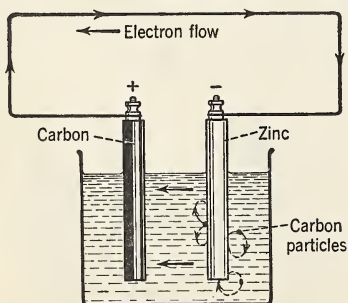

FIG. 600. Local action in a voltaic cell.
1. *Local action.* Carbon or coal is used in extracting zinc from its ores. Hence, commercial zinc usually has some carbon particles distributed through it. As such zinc dissolves in the acid of the cell, small particles of carbon are set free. Some of the carbon particles adhere to the surface of the zinc and some remain suspended in the acid solution. Since they are not attacked by the acid, they become positively charged in just the same manner as does the positive plate. Then they set up miniature circuits within the cell itself. (See Fig. 600.) This results in a waste of energy, because such small circuits do not contribute anything to the *external circuit*. Chemical action within the cell which